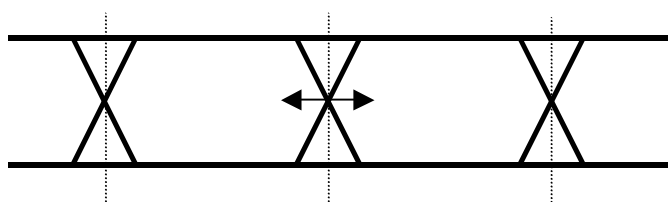

Figure 5.1.1-3 Setting Half Period Jitter
- [13] Set the Half Period Jitter for the data output signal. The Cross Point time axis can be adjusted as shown in Figure 5.1.1-3 using this setting while observing the Eye pattern. Adjacent Eye patterns become equal at default 0.